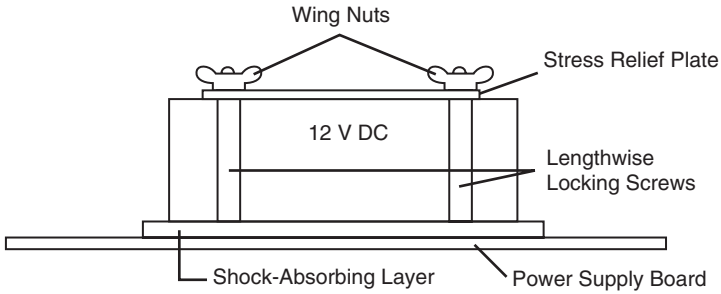

Figure 23
- Remove the wing nuts, the spacers, and the protective cover to gain access to the two 12V DC battery (See Figure 23).